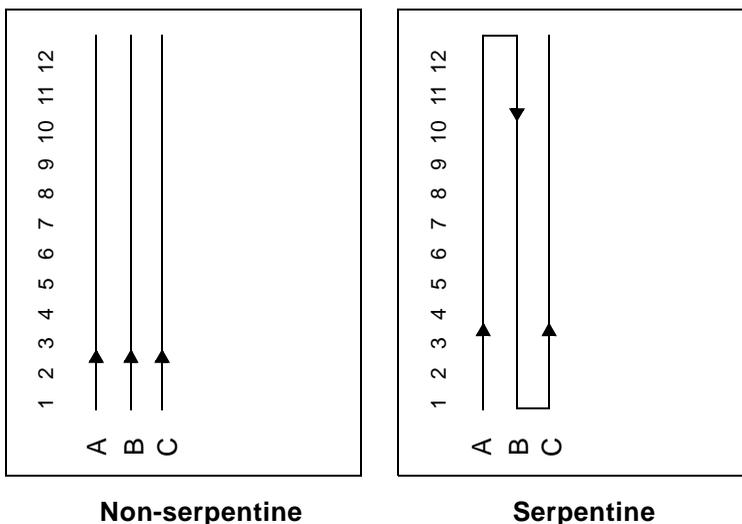

Figure 3-9 Microtiter Plate Filling Patterns
6. If you select a microtiter plate rack, select or deselect the Non-Serpentine check box to control the filling pattern during fraction collection (Figure 3-9):